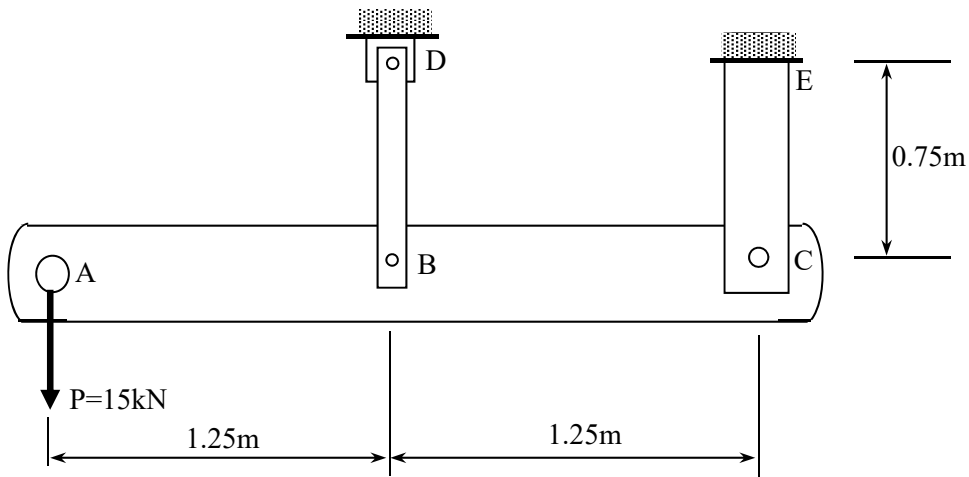
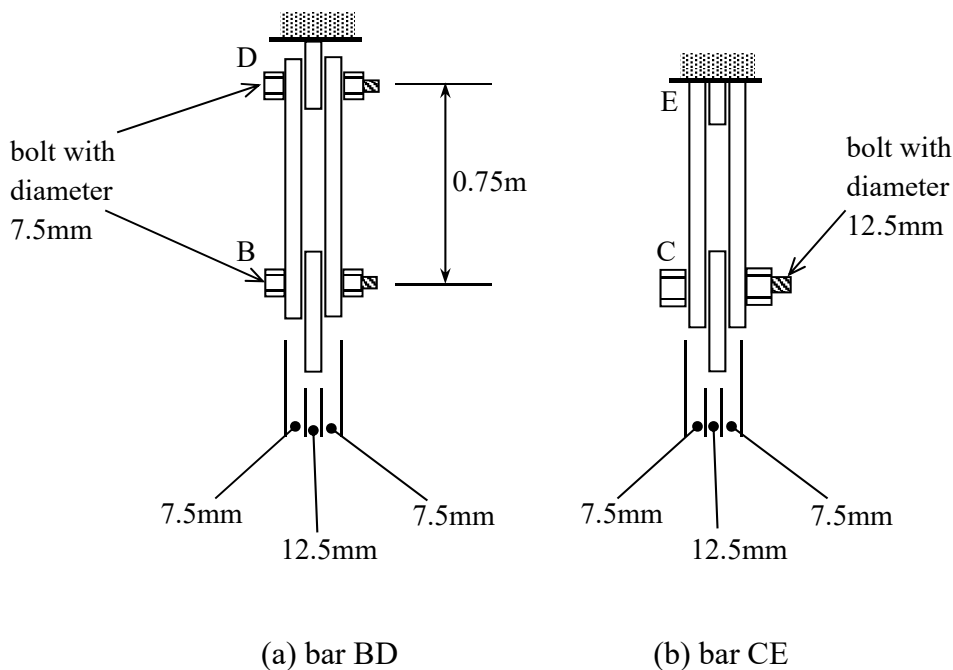

Figure 1/Rajah 1
Figure 2/ Rajah 2
1. **Figure 1** shows a horizontal rigid beam ABC supported by two bars BD and CE at point B and C, respectively. The rigid beam ABC is subjected to a downward vertical force of $P=15\text{kN}$ acting at point A. Both bars BD and CE consist of pairs of links with cross-sectional sizes as follows: $7.5\text{mm}\times 20\text{mm}$ for each of the link of bar BD and $7.5\text{mm}\times 27.5\text{mm}$ for each of the link of bar CE. Bar BD is connected to support D by means of a bolt connection with bolt diameter $d_{\text{bolt},D}=7.5\text{mm}$ whilst bar CE is connected to support E by means of welding. For the connections to rigid horizontal beam ABC, bolts of diameter $d_{\text{bolt},B}=7.5\text{mm}$ and $d_{\text{bolt},C}=12.5\text{mm}$ are used at B and C, respectively. Thickness of horizontal rigid beam ABC is $t=12.5\text{mm}$. Side views of bar BD and CE are shown in **Figure 2**.